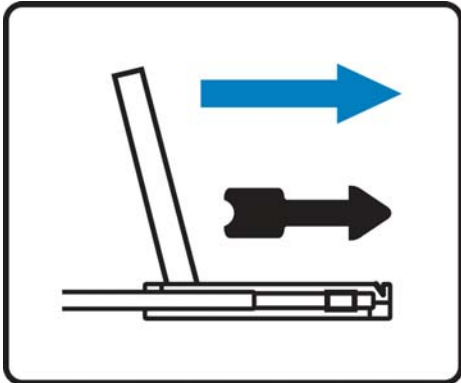

Figure 2
- Pull and hold the black arrow button on either side of the LCD keyboard drawer to unlock. (shown in **Figure 2**).